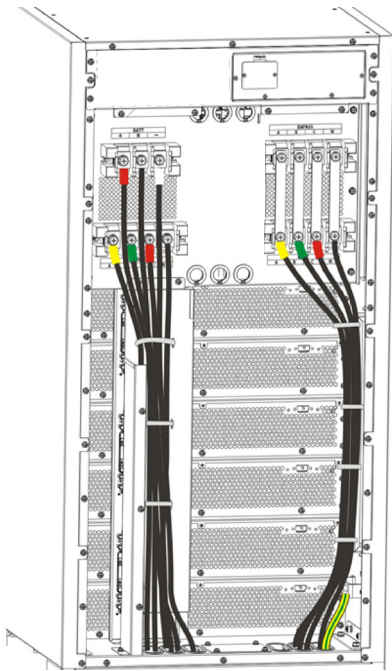

Fig. 23. Cable entry on 6-slot cabinet.
- The 6-slot cabinets have two elliptical panel-entry holes in the base of the cabinet (see Fig. 23). Make the necessary cuts that allow the passage of cables.
It is essential to fix the cables to the points provided, as shown in Fig. 23, so as not to obstruct the ventilation air outlet.